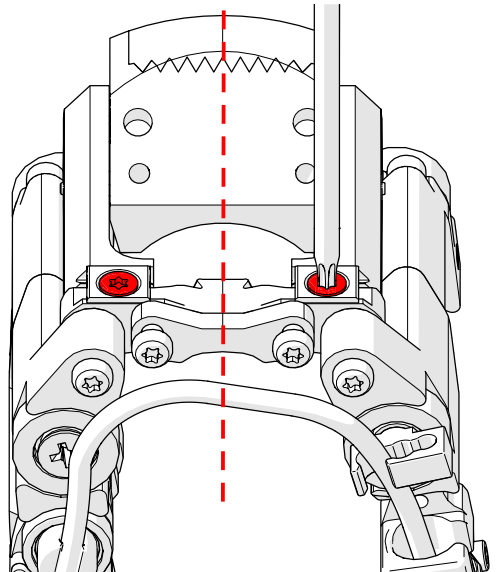
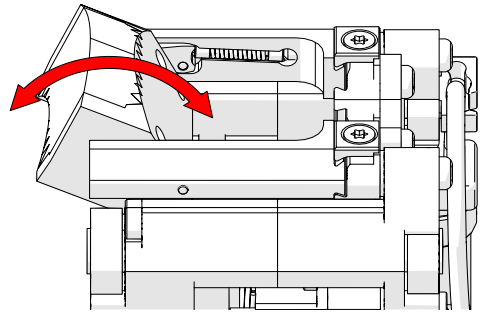

Fig. 56 - Centre wedge
Fig. 57 - Ensure wedge pivoting
7. Align the wedge in the centre of the probe holder arms (Fig. 56). Tighten the probe holder adjustment screws while ensuring they arms are not pinching the wedge too tightly restricting wedge pivoting (Fig. 57).